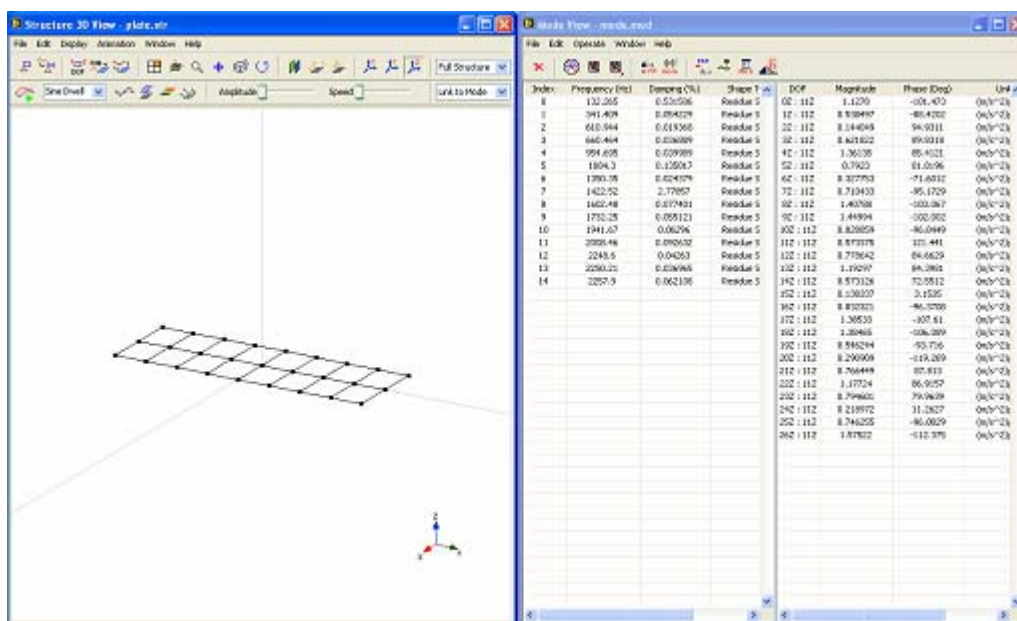

Figure 5-12 Mode shape animation
- Execute menu command **File | Load...** in the mode viewer window, a file selection dialog prompts you to select mode table file. Select file name **modes** previously saved by the step of estimating modal parameters, as Figure 5-12 shows.